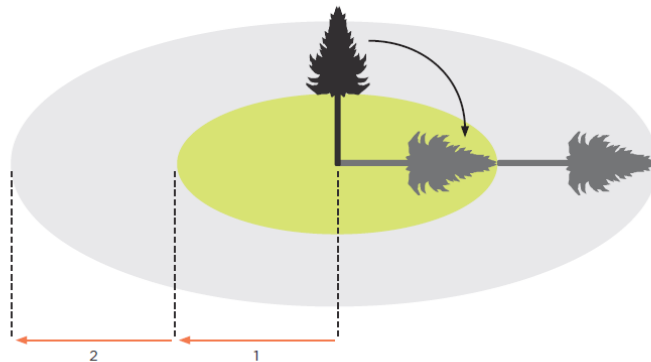

Figure 23: The two tree length danger zone
21.8.1 The danger zone of a felled tree is a circle from the stump that stretches out twice the height of the felled tree (Figure 23).
- 21.13.2 The danger zone associated with a dead tree consists of a circle with the centre at the base of the dead tree and with a radius of two tree lengths. (Figure 23).